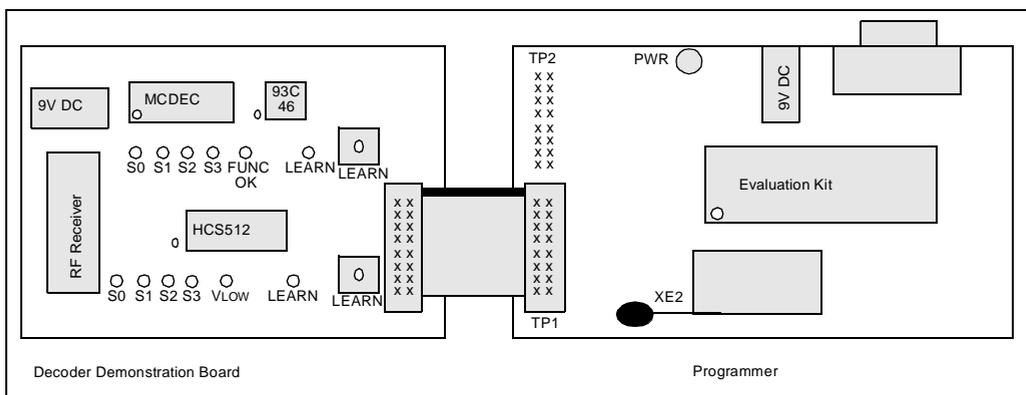

Figure 7.1: PC Receiver Hardware Setup
In the mode which allows a PC to display the hop codes received, the programmer needs to use the RF receiver on the decoder board supplied. To do this, the two boards need to be connected as described in Figure 7.1 with the 16-wire ribbon cable supplied.
3. Connect the 16-way ribbon cable as shown in Figure 7.1.